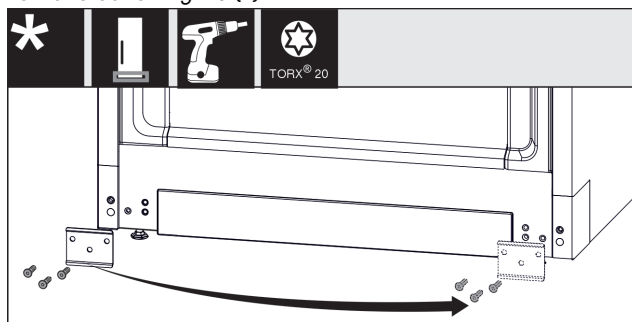

Fig. 14
- Unscrew the plate Fig. 14 (1), move it to the other side and screw it back on.